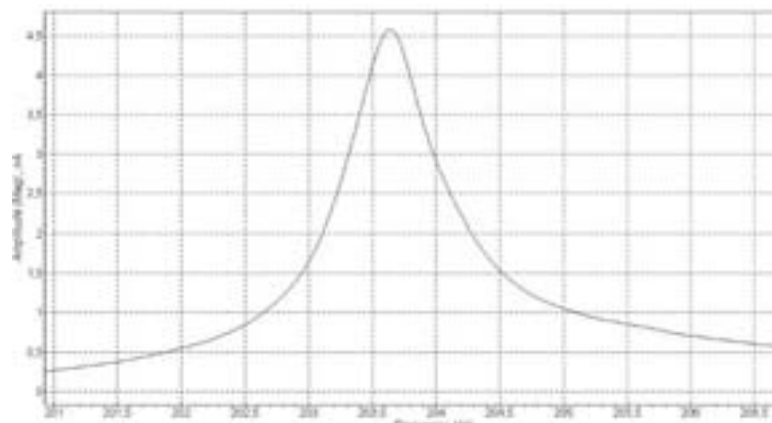

Fig. 4-6
- Displayed a frequency response of the MAG signal near the maximum in the oscilloscope (Fig. 4-6).
5. Draw your attention to a shape of the resonance curve particularly to the area of its peak. If a view of the acquired dependence (especially in the area of the peak) roughly corresponds to the dependence shown as an example in Fig. 4-6, then we may assume that automatic tuning had gone successfully. In that case, we may shift to execution of the next operation (to Setting MAG Signal Initial Level.)